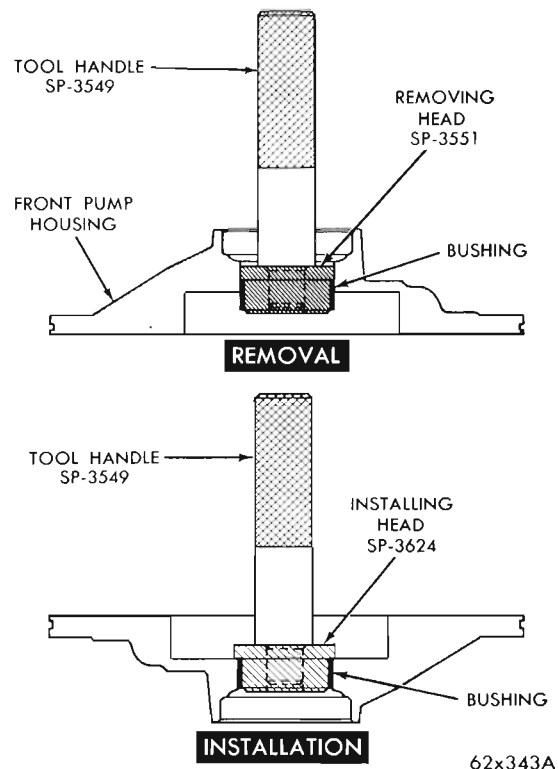

Fig. 80—Replacing Front Pump Bushing
- (1) Place the front pump housing (seal face down) on a smooth firm surface.
- (2) Place the removing head, Tool SP-3551 in the bushing and install the handle, Tool SP-3549 in the removing head (Fig. 80).
- (3) Drive the bushing straight down and out of the pump housing bore. Be careful not to cock the tool in the bore.
- (4) Position the new bushing on the installing head, Tool SP-3624.
- (5) With the pump housing on a smooth clean surface, start the bushing and installing head in the bushing bore. Install the handle, Tool SP-3549 in the installing head (Fig. 80).
- (6) Drive the bushing into the housing until the tool bottoms in the pump cavity. Be careful not to cock the tool during installation.
- (7) Stake the bushing in place by using a blunt